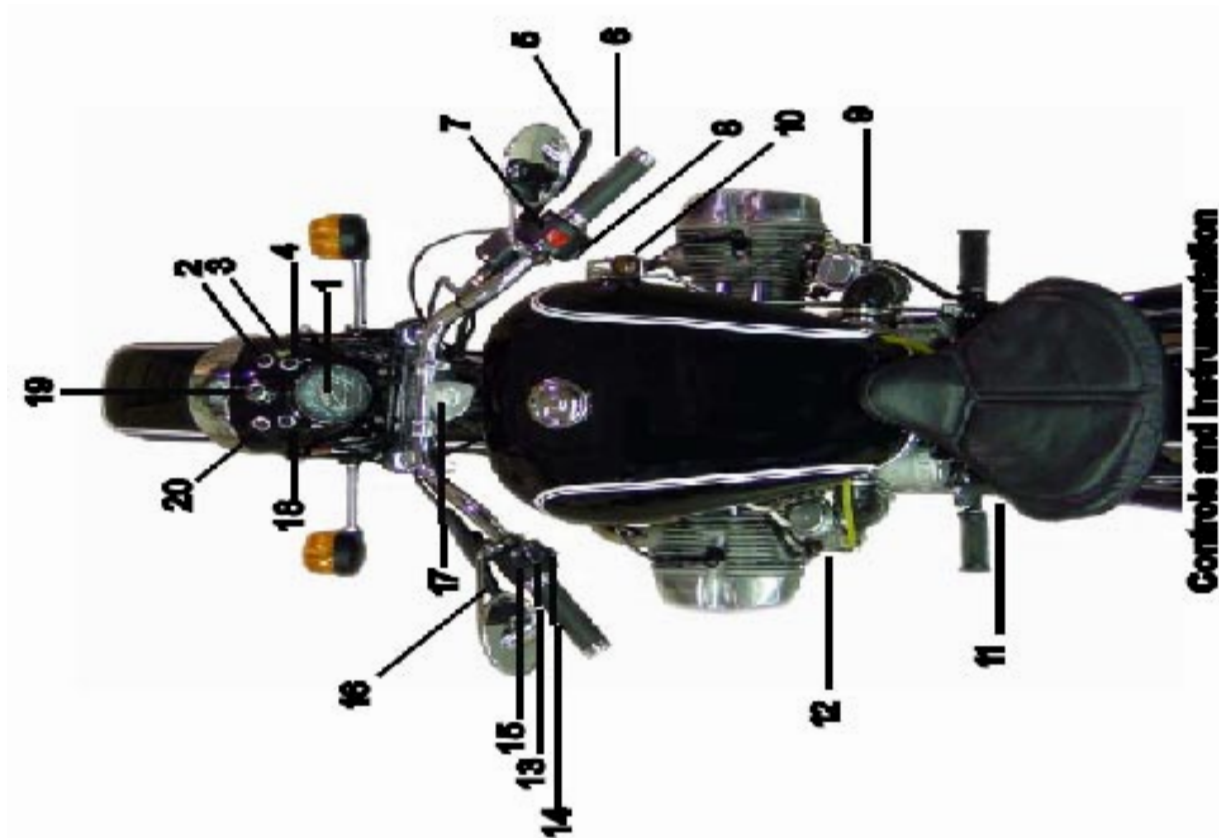

Figure 1. Controls and Instrumentation
**Speedometer** is on the dash board, with trip and total odometer. The trip odometer is reset to zero by rotating knob (Fig.1, # 3) counterclockwise. Note that the odometer reads in **kilometers**.